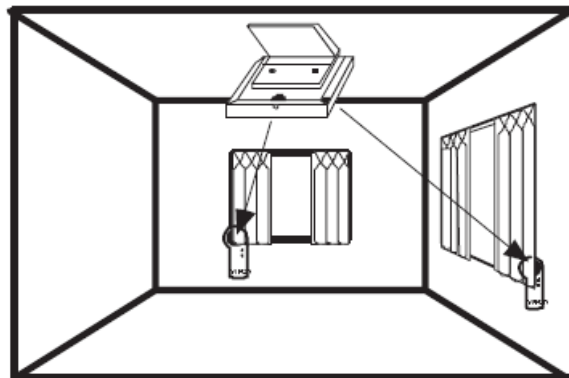

Fig. 4
- Ceiling Mounted (for optimal results Wireless VITRON is centered and directed towards protected glass, using the supplied swivel adaptor, see fig. 4).